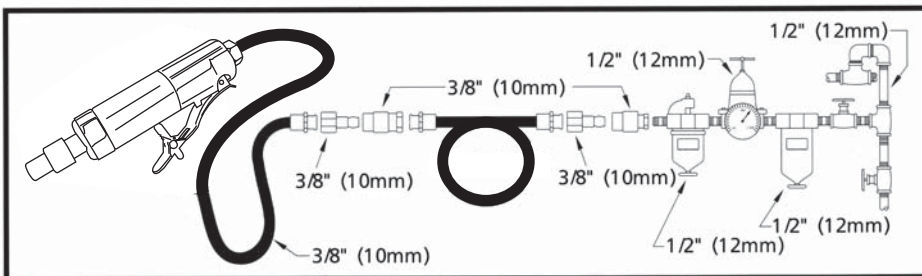

Figure 2 - Air Diagram
2. Supply tool with 90 PSI of clean, dry air. Higher pressure drastically reduces tool life. Connect tool to air line using pipe, hose and fitting sizes shown in Figure 2.
Do not use quick disconnect couplings to tool. See Figure 2 for correct set-up.